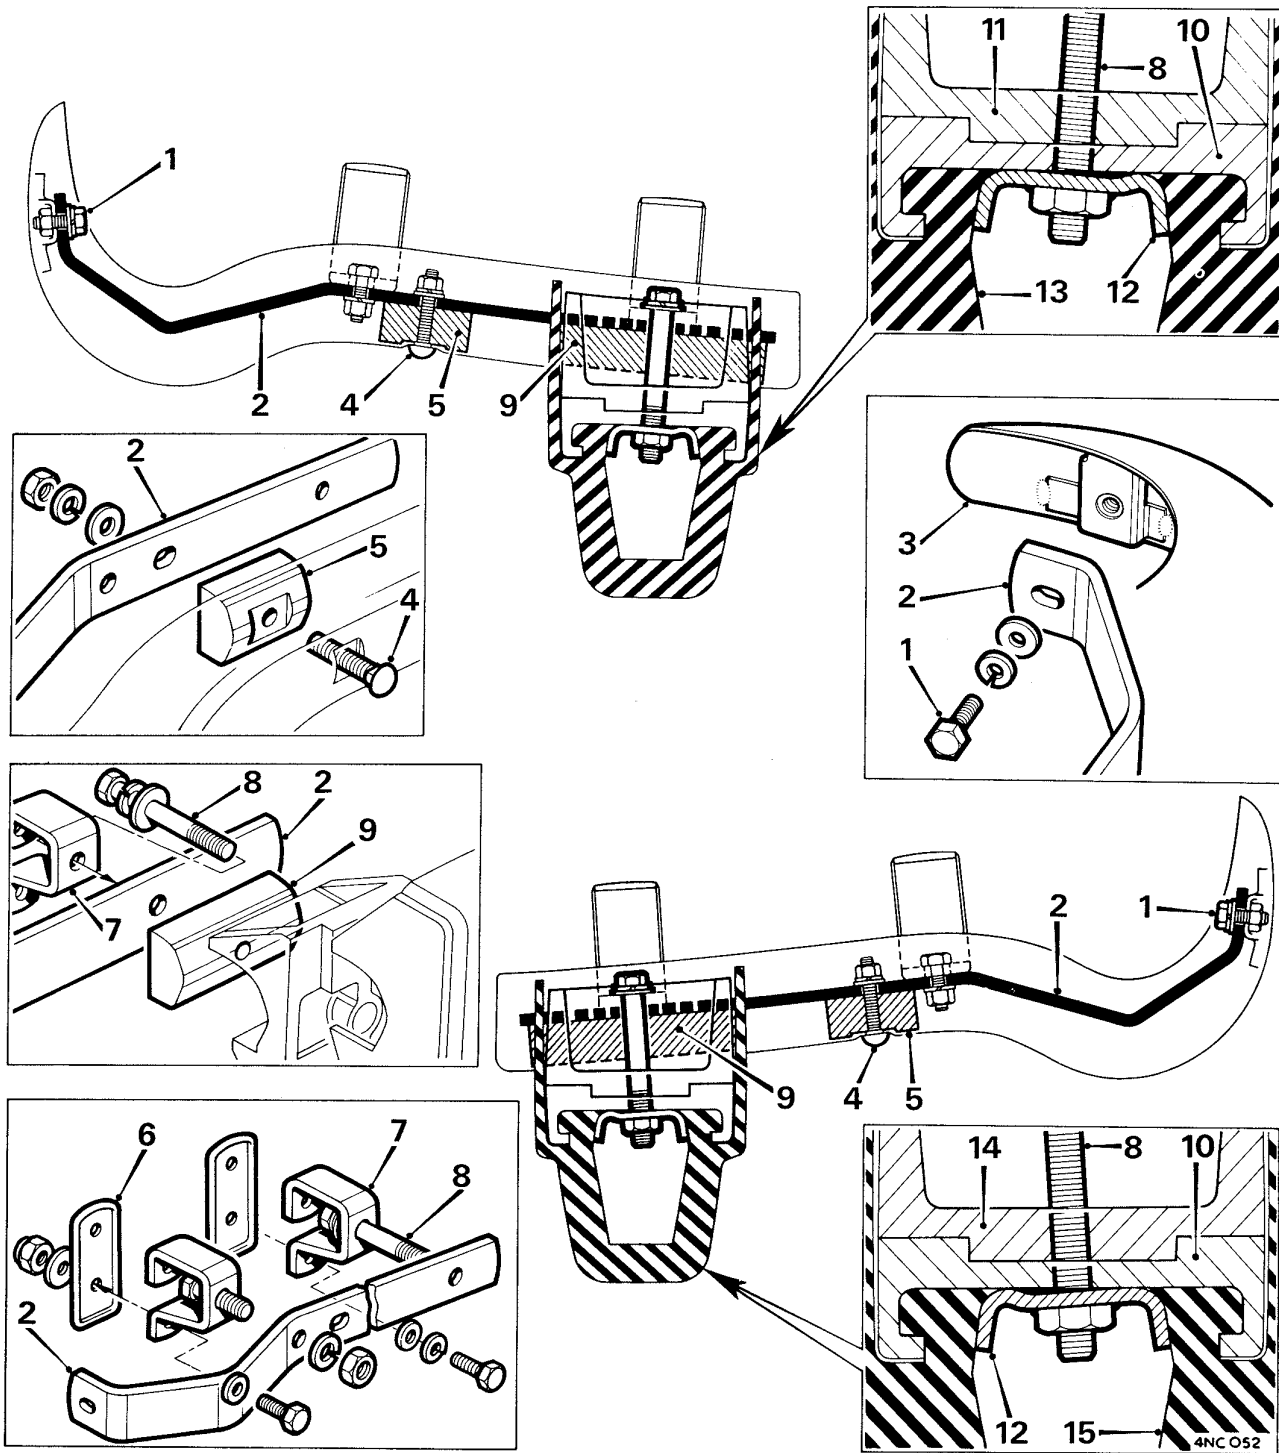

Fig. Rb.6
- (7) Reverse the procedure in 1 to 6, referring to Fig. Rb.6 and noting the following: